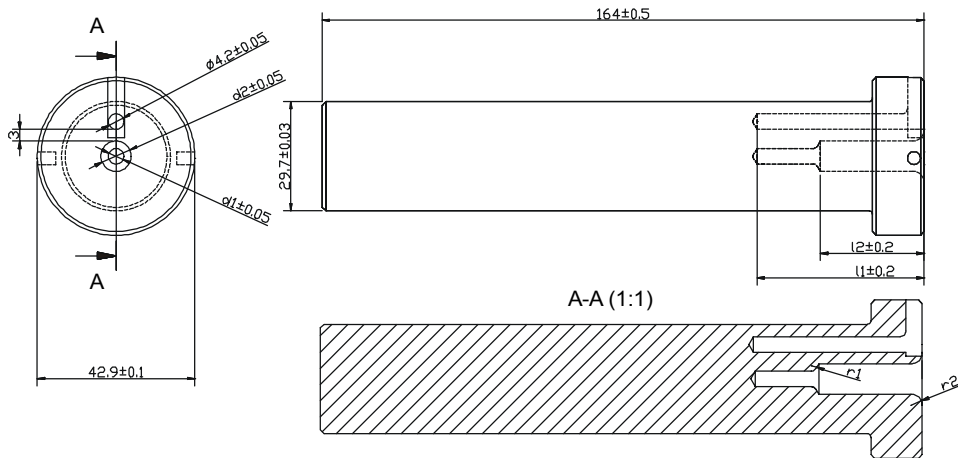

Fig. 4
2. The hole for the sensor is placed in the centre of the insert. The diameter is stated as the measured diameter + 0.2 mm. The tolerance of the diameter must be ± 0.05 as indicated in fig. 4.
4. The hole for the reference sensor must be similar to the total length of the sensor “l1”, see fig. 4. The diameter of the hole for the reference sensor is 4.2 mm as indicated in fig. 4.